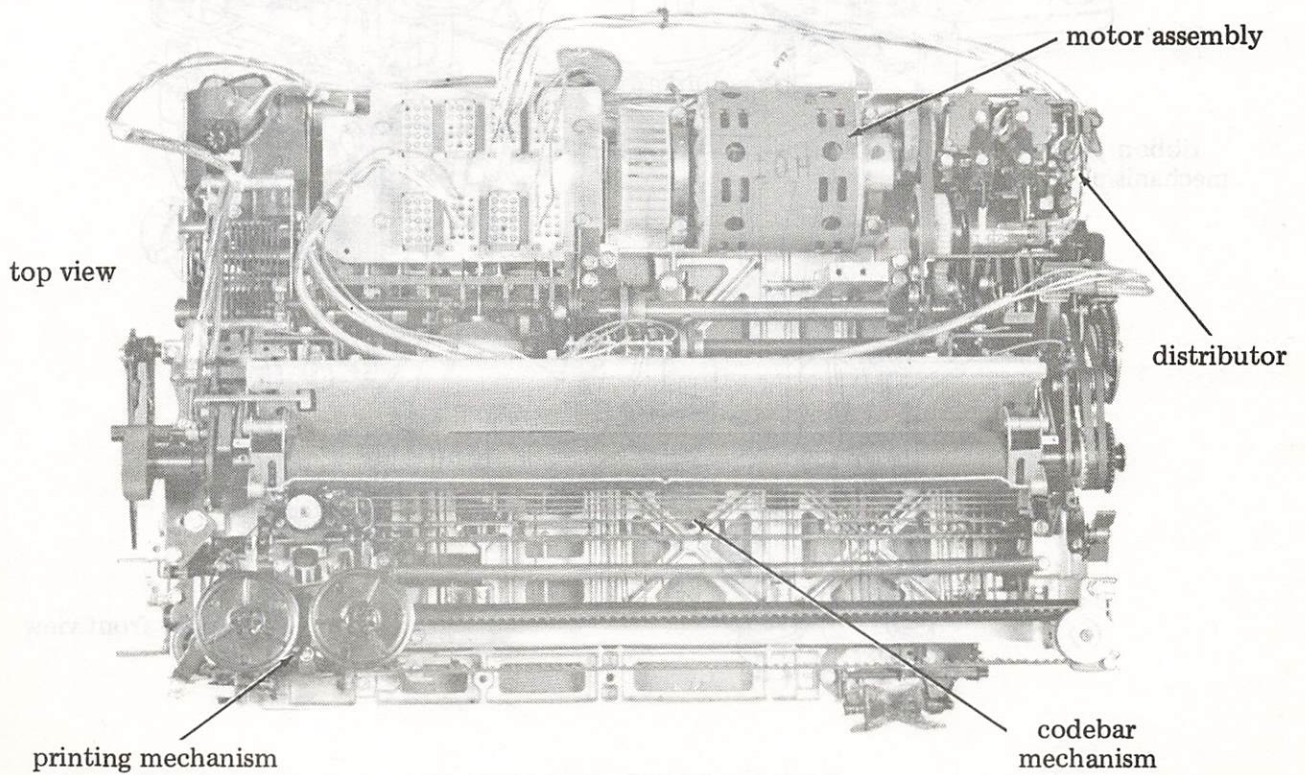

Figure 7 - Codebar Mechanism
3.12 The codebar mechanism is located in the front of the typing unit (Figure 7). A character to be printed is determined by the code combination set-up on eight codebars. In order to position the codebars, the code selection is first set up in the selector mechanism.